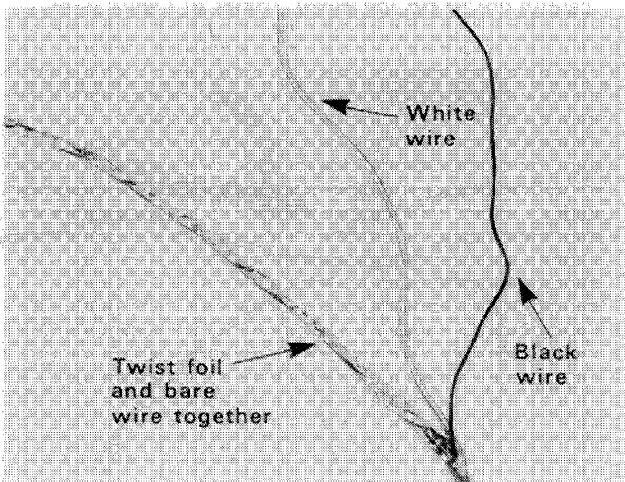

Figure 3.38 – Twisting Shield Foil and Wire
- **Step No. 3** — Twist the shield foil and bare wire together, thereby forming a single strand. (Refer to Figure 3.38.)